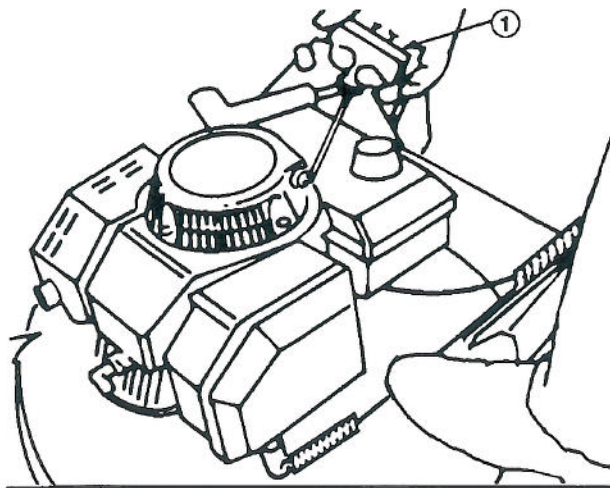

Figure 8
3. Place foot on step at left side of mower housing (Fig. 8) and keep other foot from beneath the housing. Pull fingertip starter handle up gently until positive engagement results, and pull handle quickly to start the engine. Regulate throttle as desired. When temperature is near 40°F, a few extra pulls may be required because the engine needs priming.